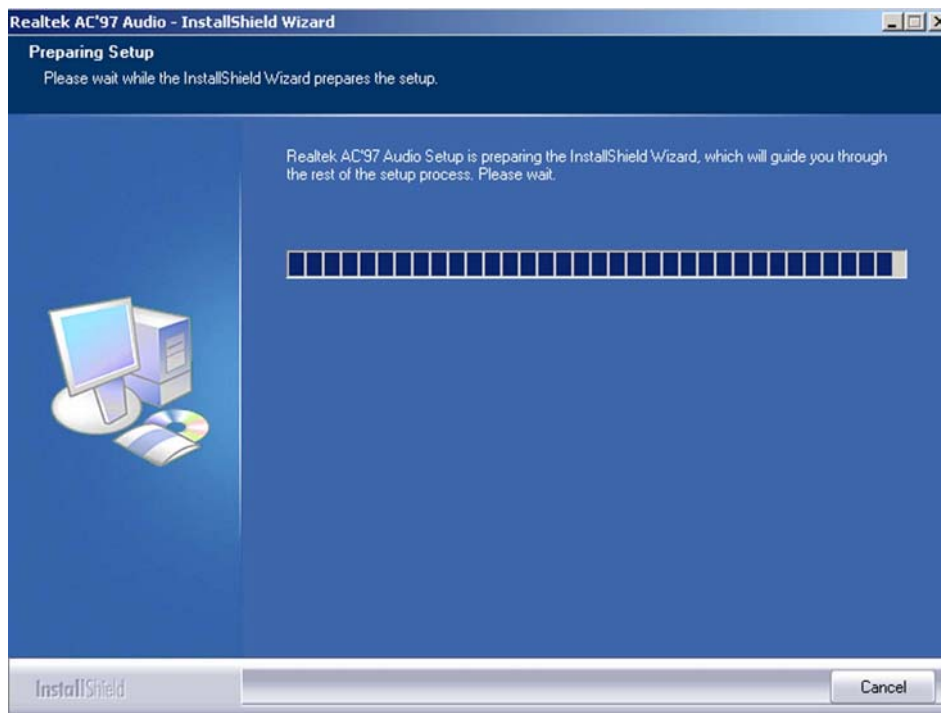

Figure 6-13: Audio Driver Setup Preparation
Step 5: The RealTek Audio Setup prepares the install shield to guide you through the rest of the setup process. See **Figure 6-13**.